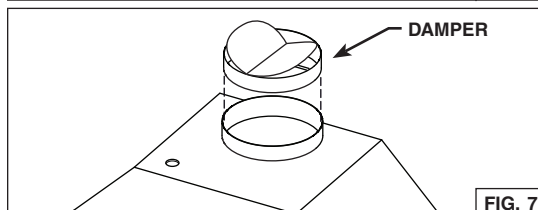

FIG. 7
5. **Ducted installation only:** Slide the damper inside the blower discharge opening on top of the power module (Fig. 7).